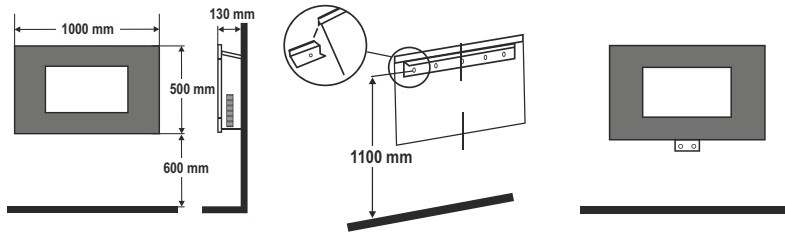

figure 4 • 4. ábra • 4. obraz • figura 4. • 4. skica • 4. skica • 4. obrázek • slika 4.
1. Scan the QR code with your smart phone (Figure 4.) then download and install "TuyaSmart" application. In the application, select Login button, if you already have a TuyaSmart account on that phone then enter the application. Make sure your device and smartphone are as close as possible to the Wi-Fi router and both are connected to it. If you do not have a TuyaSmart account on that phone, then select the Register button.